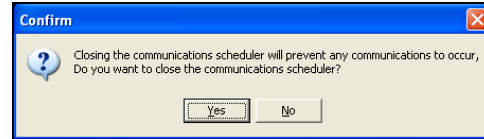

Figure 3.1.7
- Shutdown:** This will bring up the “**Confirm**” window asking you if you are sure that you want to shutdown the comm. Server (Figure 3.1.7).